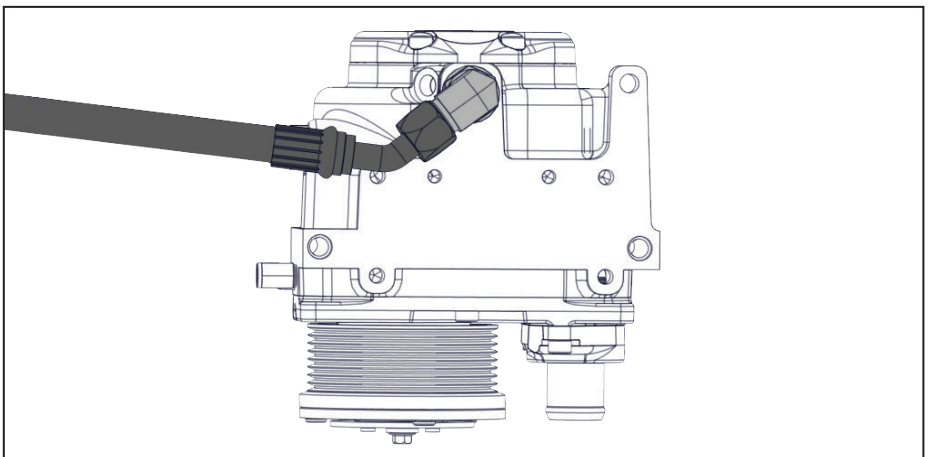

Figure 12 — Compressor discharge fitting
- Install the 45° fitting from the 1/2 in × 24 1/2 in discharge hose onto the compressor discharge fitting. Orient the hose in the same direction as the #6 JIC oil fitting on the side of the compressor and tighten the hose securely (Figure 12).